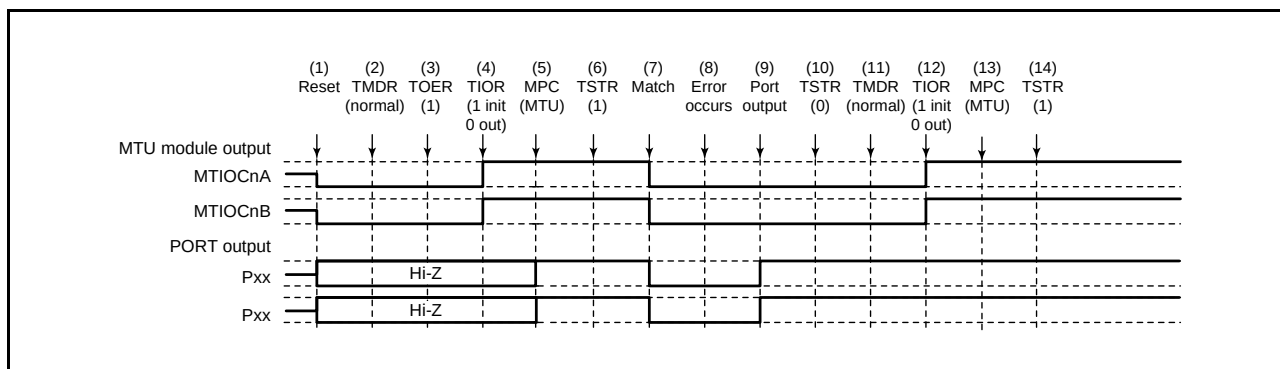

Figure 23.116 Error Occurrence in Normal Mode, Recovery in Normal Mode
Figure 23.116 shows a case in which an error occurs in normal mode and operation is restarted in normal mode after re-setting.
(1) to (10) are the same as in Figure 23.116.
(11) Set PWM mode 1.
(12) Set the TIOR register to initialize pins, i.e. so that the MTIOCnB (or MTIOCnD) does not produce a waveform in PWM mode 1. If a particular level should be output, set the port direction register (PDR) and the port output data register (PODR) so that the pins of the I/O port operate as general outputs.
(13) Use the MPC and the port mode register (PMR) for the I/O port to set up MTU output.
(14) Restart operation by setting the TSTR register.
(11) Set PWM mode 2.
(12) Initialize the pins with the TIOR register. (In PWM mode 2, the cycle register pins are not initialized. If initialization is required, initialize in normal mode, then switch to PWM mode 2.)
(11) Set the phase counting mode.
(12) Initialize the pins with the TIOR register.
(11) Initialize the normal mode waveform generation block with the TIOR register.
(12) Disable operation of the normal mode waveform generation block with the TIOR register.
(13) Disable output in MTU3 and MTU4 with the TOER register.
(14) Select the complementary PWM mode output level and enable or disable cyclic output with the TOCR register.
(15) Set complementary PWM mode.
(16) Enable output in MTU3 and MTU4 with the TOER register.
(17) Use the MPC and the port mode register (PMR) for the I/O port to set up MTU output.
(18) Restart operation by setting the TSTR register.